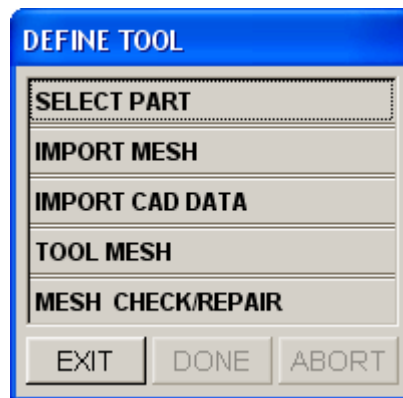

Figure 50: Define tool dialog box
1. Click the **Binder** button, following by selecting the **SELECT PART** function from the **Define Tool** dialog box illustrated in Figure 50.